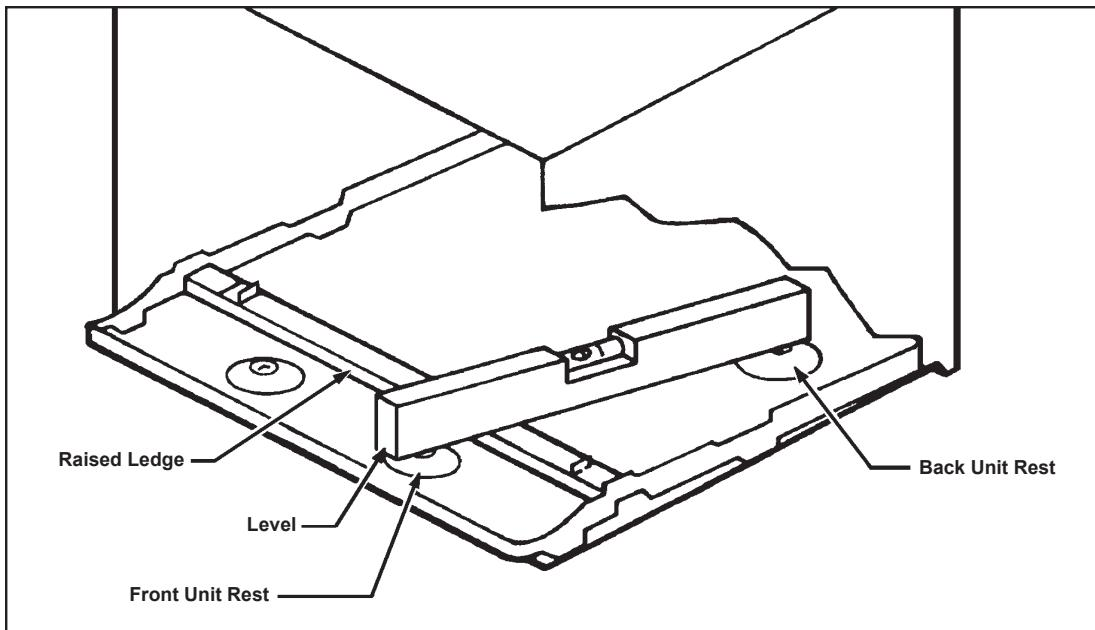

Figure 8
- A. Adjustable SUBBASE (SB) or other unit support must be provided for panel wall type construction and for walls less than 8" thick.
- B. A minimum distance of 1" must be allowed on all sides of the unit to adjacent wall and floor. Where the subbase is required, the minimum distance from the floor to the sleeve must be $3 \frac{1}{2}$ ". To minimize chances of short cycling of the compressor, the minimum clearance between the ceiling and the top of the unit should be 24". (See Figure 8).
- STEP 4** The WSC SLEEVE must also be installed with a downward tilt toward the outside of the building. If a level is placed so that it rests on the FRONT and BACK UNIT REST as shown in Figure 8, a properly installed unit provides a $\frac{1}{2}$ bubble slope to the outside of the building.